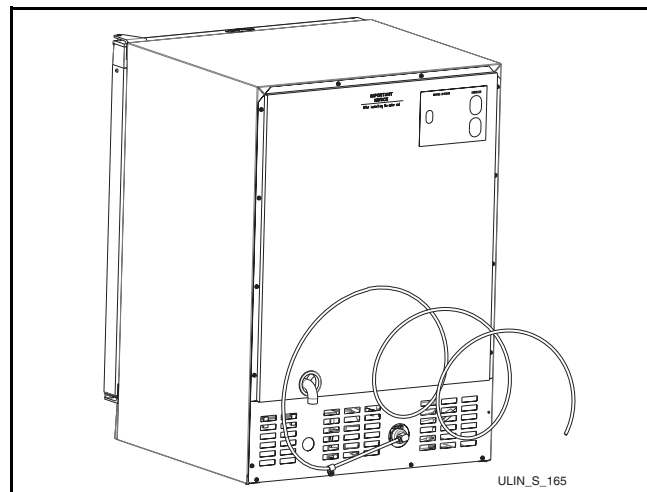

Figure 77
- Leave approximately 8' of water line to be coiled behind the appliance (**Figure 77**). The water line should be looped into 2 coils. This will allow the unit to be removed for cleaning and servicing. However, make certain that the tubing is not pinched or damaged during installation.
1. Locate the desired cold water supply location. Attach a 1/4" copper line to this location and route the tubing to the appliance. Leave approximately 8' of water line to be coiled behind the appliance. The water line should be looped into 2 coils. This will allow the line to flex when removing the unit for cleaning and servicing (**Figure 77**).